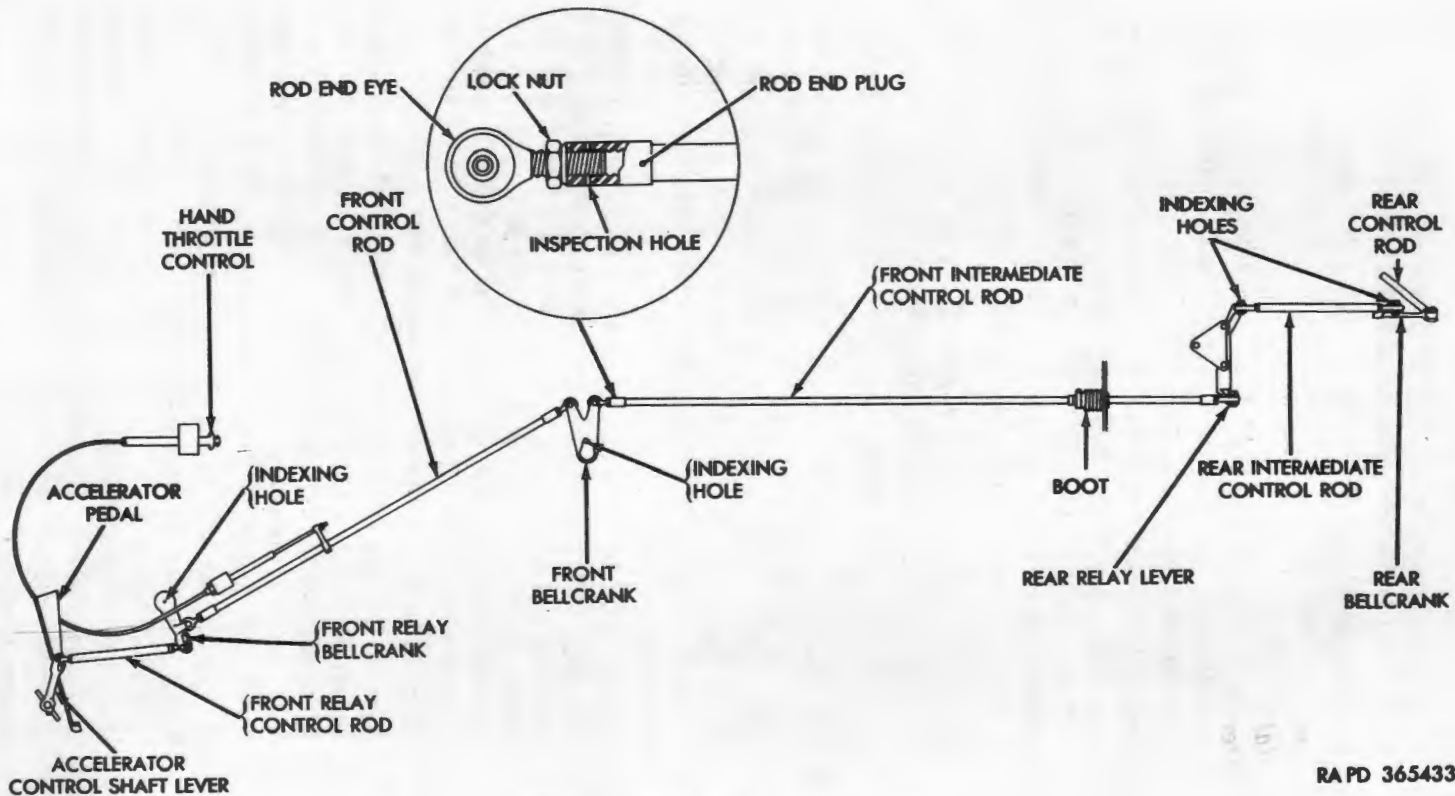

Figure 129. Throttle control linkage.
a. Description. The hand throttle and the accelerator pedal are connected by linkage (fig. 129) to the main engine carburetor control cross shaft levers (fig. 123). A governor is connected into this linkage by a spring-loaded, compound lever that controls the maximum engine speed. Adjustment of the throttle control linkage (*b* below) is accomplished by inserting a $\frac{1}{8}$ -inch diameter pin in the indexing holes of each bellcrank and lengthening or shortening the individual control rods as necessary. Adjustment must be made with throttle controls in the "idle" position.
- (2) Remove locking wire, hex-head bolt, and lockwasher securing front relay control rod (fig. 129) to front relay bellcrank.
- (3) Position front relay bellcrank (fig. 129) so that a $\frac{1}{8}$ -inch diameter pin can be inserted through indexing holes in bellcrank and insert pin through holes.
- (4) Loosen locknut on rod end eye of front relay control rod (fig. 129) and adjust rod end eye so a $\frac{1}{4}$ x 1 hex-head bolt fits freely between bellcrank and control rod end eye. Secure rod end eye in position by tightening locknut.
Note. At all times, rod end eye should be screwed up to or past inspection hole in rod end plug (fig. 129).
- (5) Remove locking wire, two hex-head bolts, and lockwashers securing front control rod (fig. 129) and front intermediate control rod to front bellcrank. Position bellcrank so that $\frac{1}{8}$ -inch diameter pin can be inserted through indexing holes provided in bellcrank and insert pin through holes.
- (6) Loosen locknuts on rod end eyes of front relay control rod (fig. 129) and intermediate control rod. Adjust control rod end eyes so $\frac{1}{4}$ x 1 hex-inch bolts fit freely between front bellcrank and control rod end eyes. Secure rod end eyes in position by tightening locknuts. Secure control rods to front bellcrank with two $\frac{1}{4}$ x 1 hex-head bolts, $\frac{1}{4}$ -inch lockwashers and locking wire.
- (7) Remove locking wire, two hex-head bolts and lockwashers securing rear control rod (fig. 129) and rear intermediate control rod to rear bellcrank. Position bellcrank so that $\frac{1}{8}$ -inch diameter pin can be inserted in indexing holes provided in bellcrank and insert pin through holes.
- (8) Loosen locknuts on rod end eyes of rear control rod (fig. 129) and rear intermediate control rod. Adjust control rod end eyes so $\frac{1}{4}$ x 1 hex-head bolts fit freely between rear bellcrank and control rod end eyes. Secure rod end eyes in position by tightening locknuts. Secure control rods to front bellcrank with two $\frac{1}{4}$ x 1 hex-head bolts, $\frac{1}{4}$ -inch lockwashers and locking wire.
- (9) Remove $\frac{1}{8}$ -inch diameter pins from indexing holes in front relay, front, and rear bellcranks.